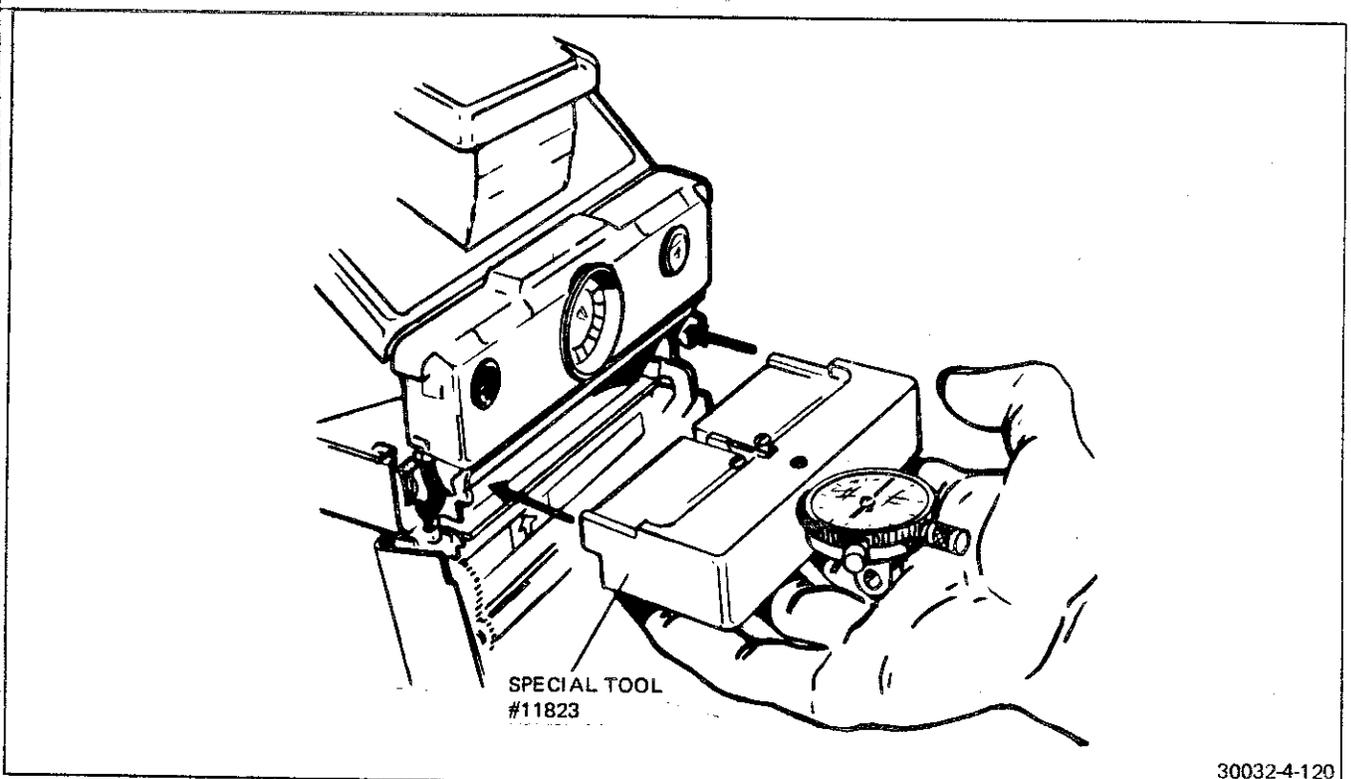

FIGURE 4-120 INNER FRAME BOW GAUGE
1. Remove the front cover and test with the Inner Frame Bow Gauge, Special Tool #11823. Hold the camera with the left hand, insert the gauge and exert pressure on the center of the gauge. The reading will be between  $+0.004$  inches and  $+0.011$ . See Figure 4-120.